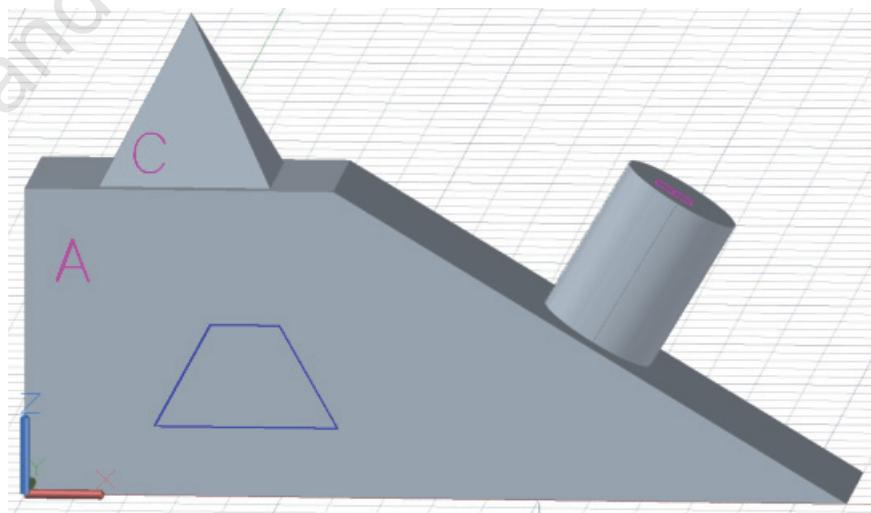

Figure 1–33
5. In the *Home tab>Draw panel*, click (Line). Hover over Face A until it highlights and add several lines to the surface, similar to those shown in Figure 1–33.
6. Click  (Circle). Hover over Face B until it highlights. Draw a small circle anywhere on Face B, similar to that shown in Figure 1–34.